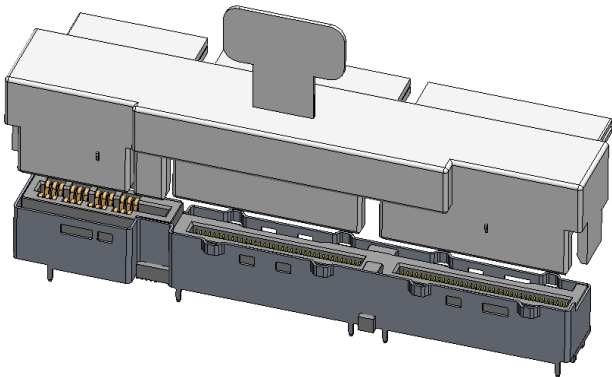
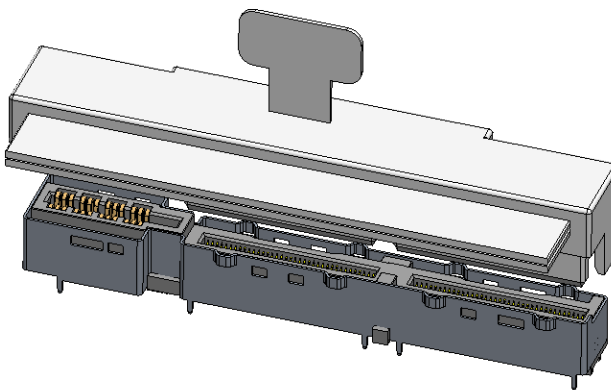
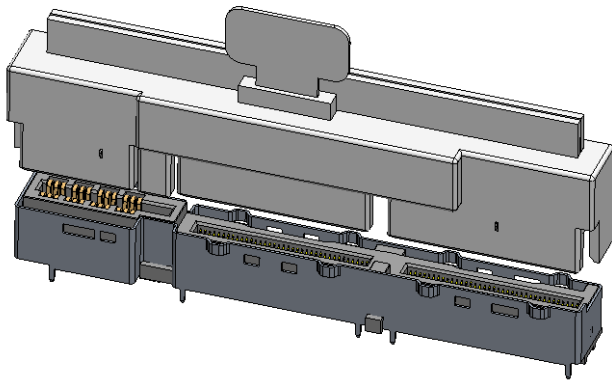
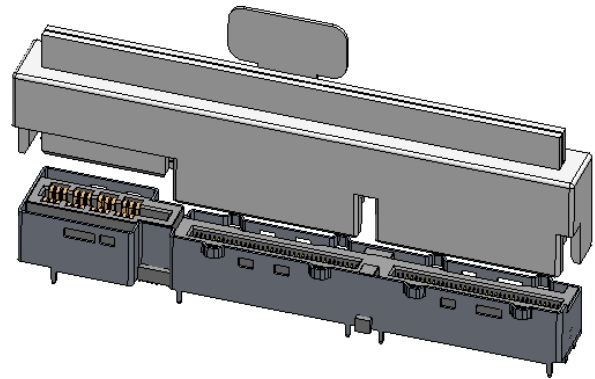

Figure 4-17 Combo x16+34A High Power RA Cable Application
Figure 4-18 Combo x16+34A High Power RRA Cable Application
Figure 4-19 Combo x16+34A High Power STR Cable Application
Figure 4-20 Combo x16+34A High Power RSTR Cable Application
2. A single combo high power cable can plug into the Vertical Combo DE x16+34A High Power connector as shown in Figure 4-17, Figure 4-18, Figure 4-19, or Figure 4-20.